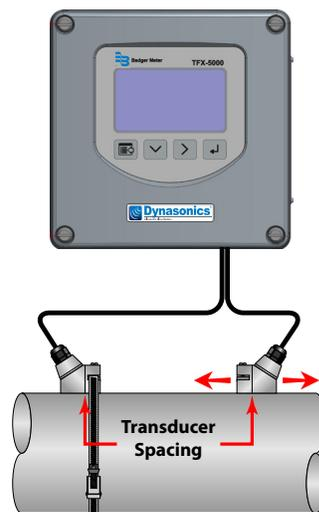

Figure 11: Transducer positioning
- Place the downstream transducer on the pipe at the calculated transducer spacing. See Figure 11. Apply firm hand pressure.